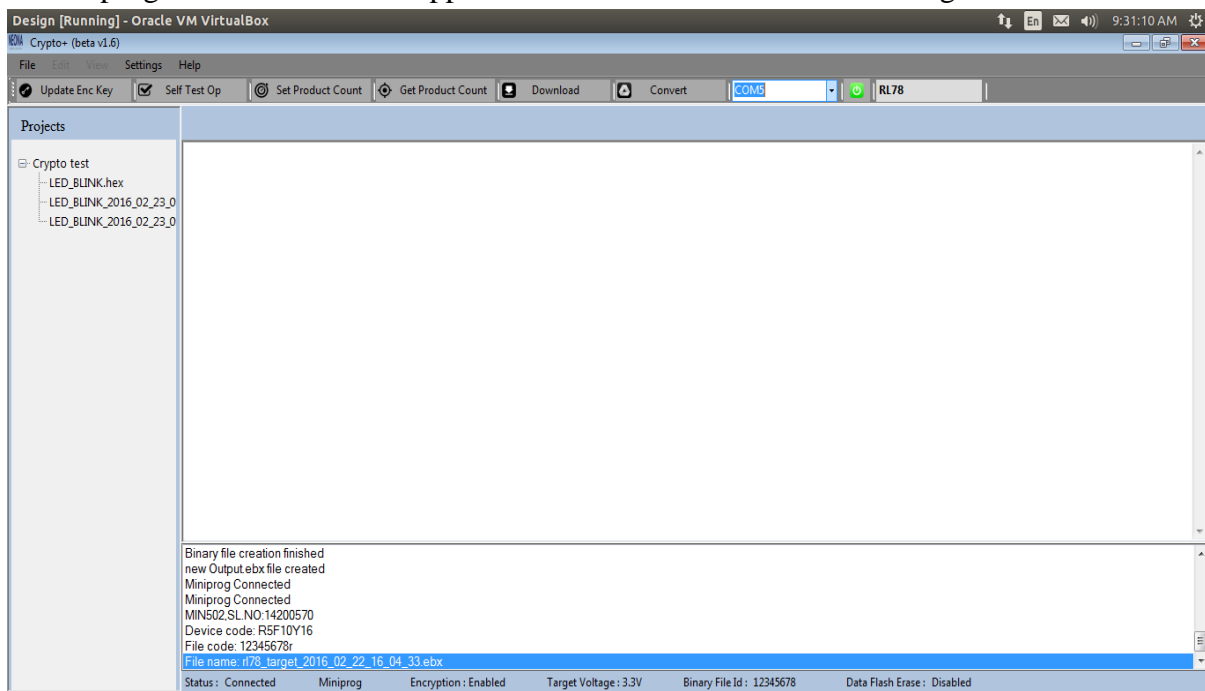

Figure 2.32
STEP 4: If connection is established, the connect button in the application will turn green and all programmer details will appear in the text view as shown in the figure 2.32.